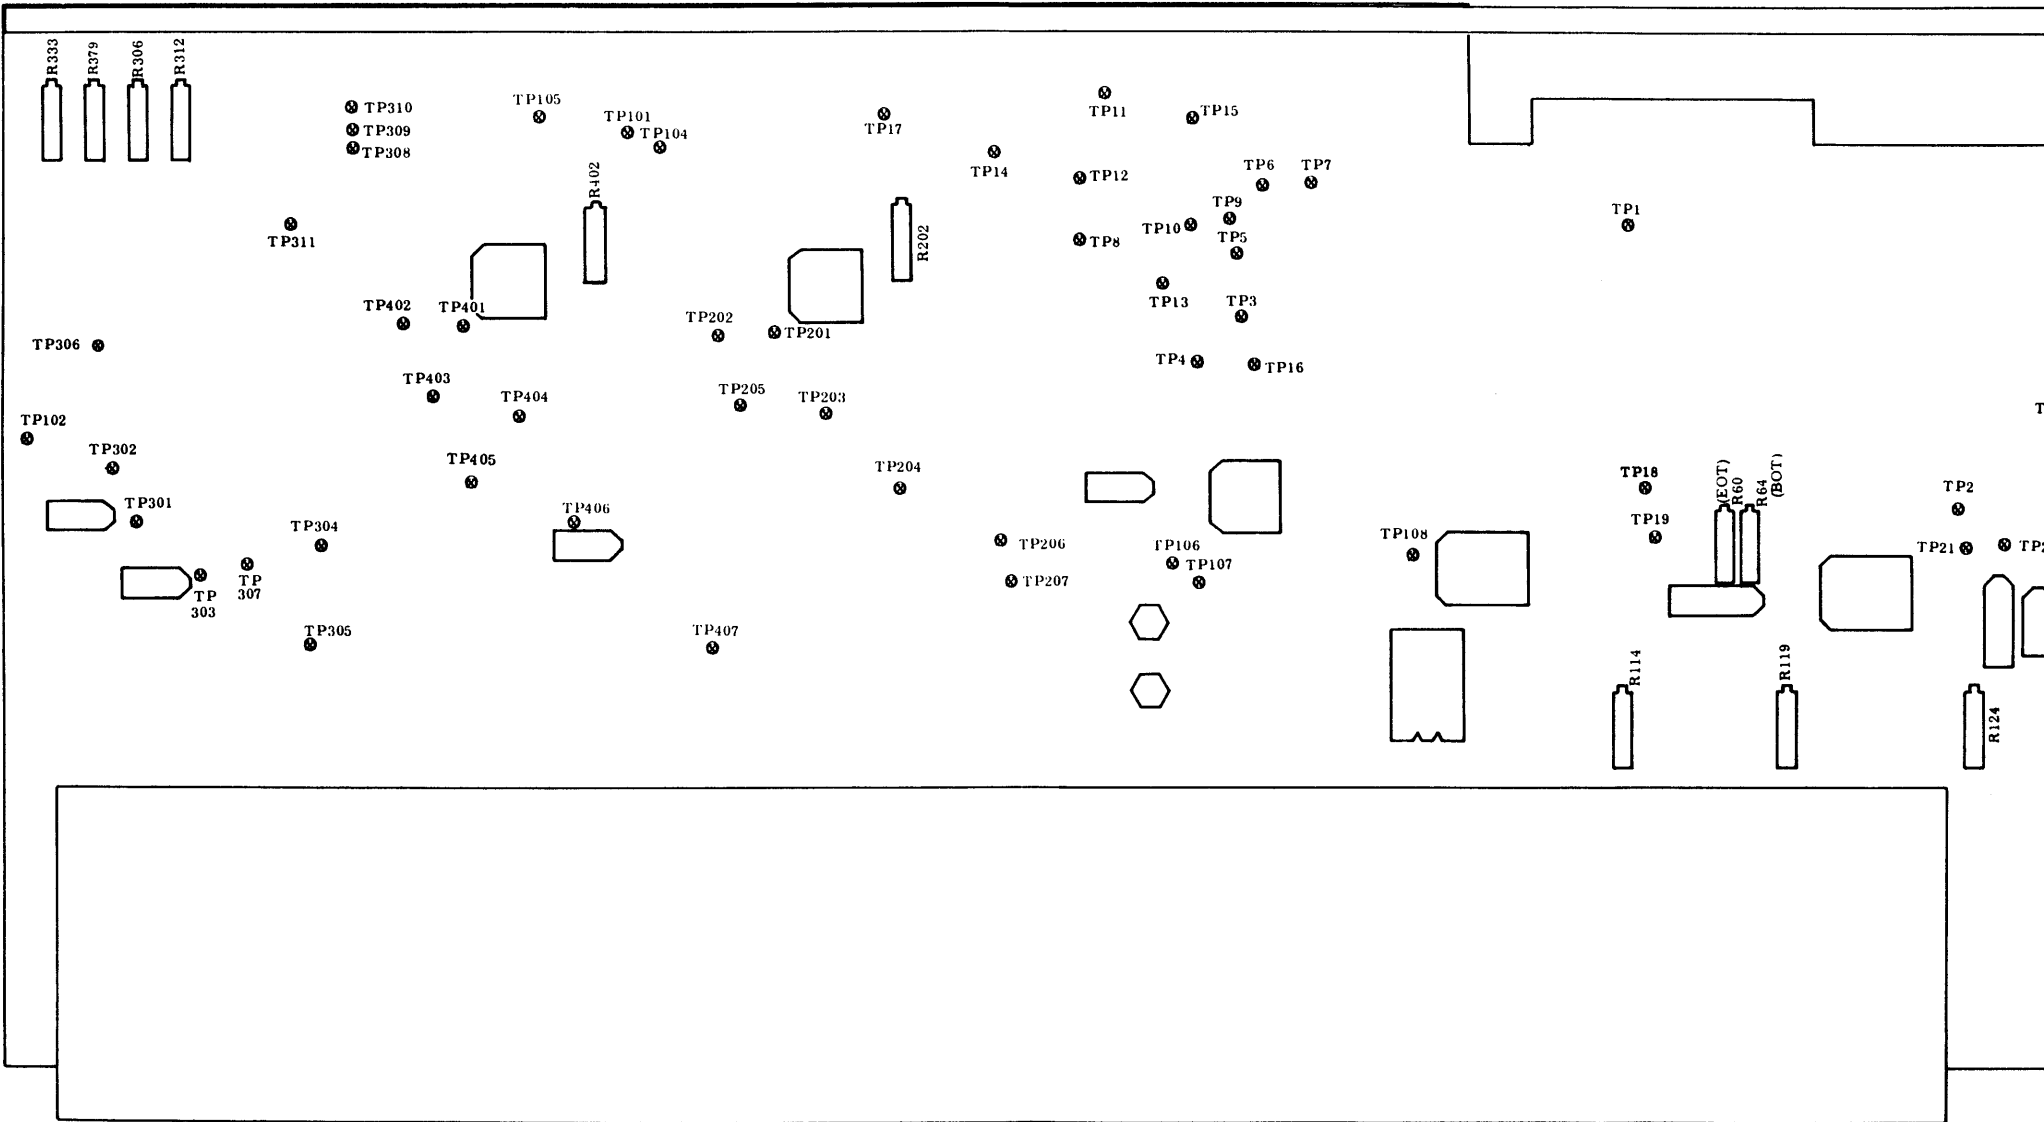

Figure 5-4. Control/Servo Board Test Point Chart
5-21. **REGULATED POWER SUPPLY ADJUSTMENTS.** The potentiometers used for these adjustments are located on the power regulator portion of the control/servo board. Test point locations are shown in Figure 5-4. Referring to Table 5-3, for each of the three power supplies listed measure voltage across the test points shown and adjust the designated potentiometer until the required voltage is obtained.
5-23. If either the end-of-tape (EOT) or beginning-of-tape (BOT) system is not functioning properly, or if a new tape sensor assembly has been installed, the complete tape sensor system must be readjusted in accordance with the procedure presented in paragraph 5-24. The potentiometers and test points used for these adjustments are located on the control/servo board. A chart of the test point and potentiometer locations on the control/servo board is presented in Figure 5-4.
- a. Monitor tachometer output voltage at TP301, located on capstan servo portion of control/servo board. (See Figure 5-4 for location of test points.)
- a. Use oscilloscope to monitor TP301 (Figure 5-4), on control/servo board, with respect to TP102.